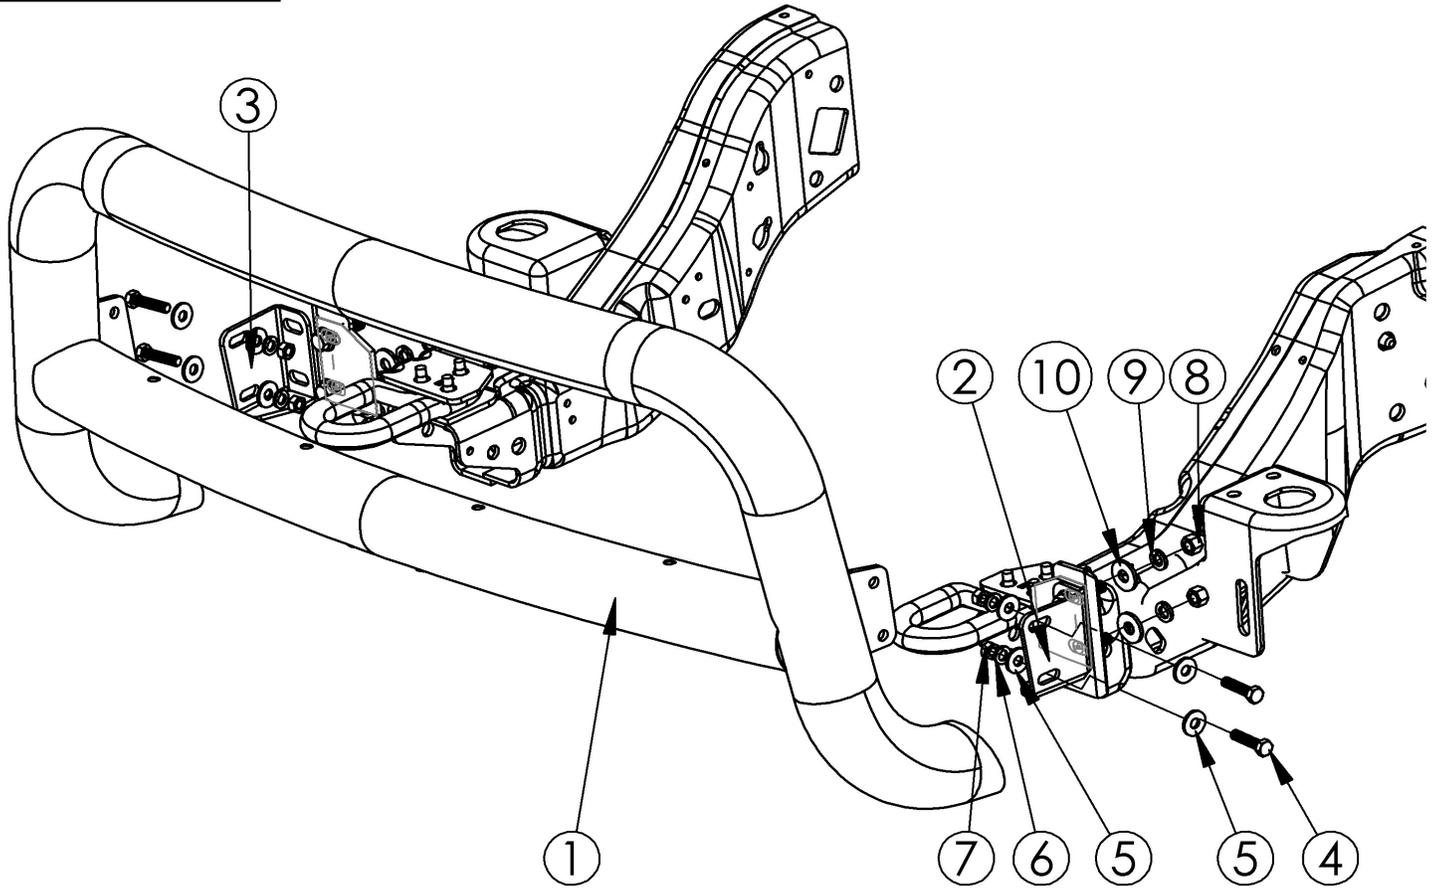

Fig. 3
5. With assistance, hold the bull bar up in position on the inside of the mounting brackets. Loosely install the bull bar to the mounting brackets using (4) M10-1.50X30 hex cap screws, (8) M10 flat washers, (4) M10 split lock washers, and (4) M10-1.50 hex nuts. See **Figure 3** for a picture showing the mounting hardware.